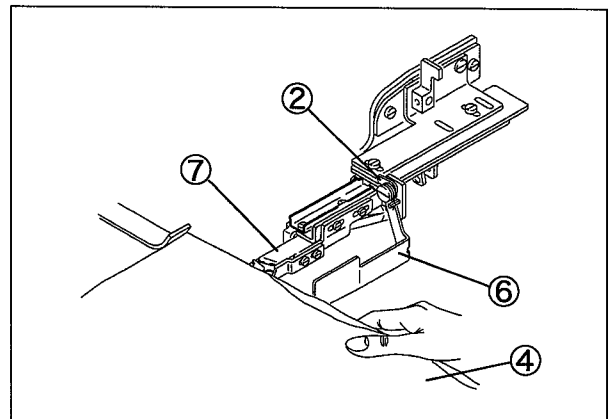

Fig. 16
- (3) Sewing the material. (Fig. 16)